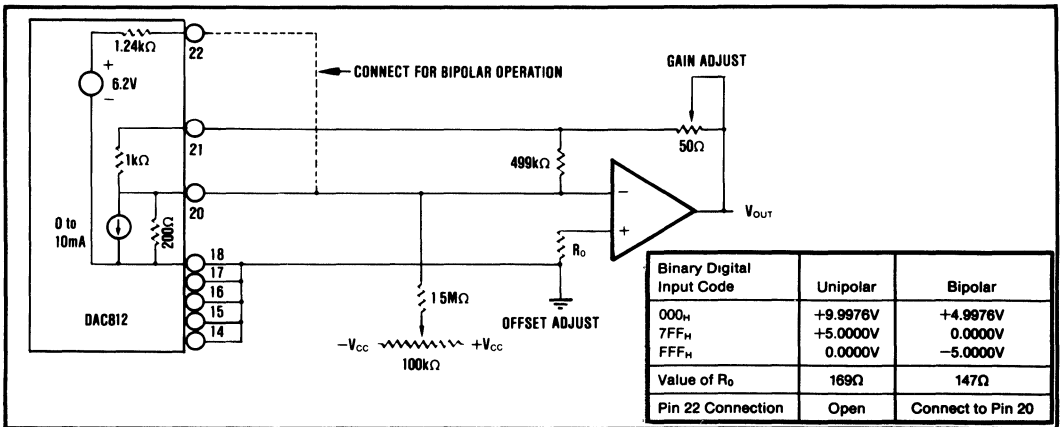
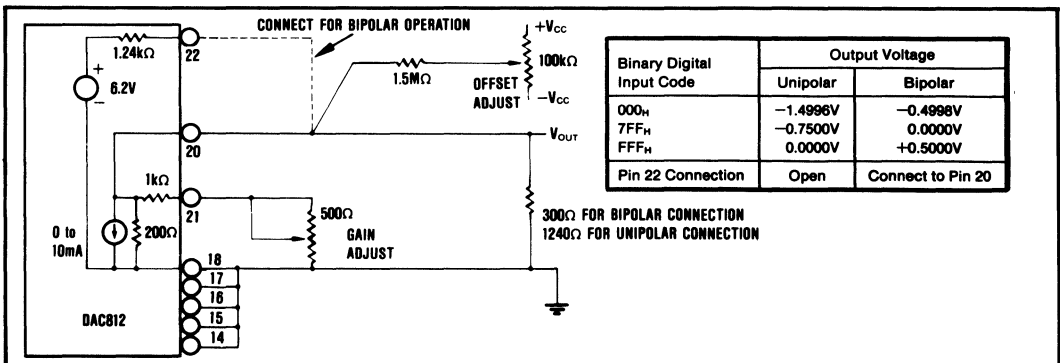

FIGURE 5. Bipolar and Unipolar Output Connections with External Op Amp.
FIGURE 6. Bipolar and Unipolar Output Connection with Resistor Load Only.
NOTES: (1) FSR is full-scale range. (2) Adjustable to zero with external potentiometer. Gain error is specified for unadjusted operation using internal resistor network. See Figure 5 and Figure 6.
Figure 5 shows the DAC812 connected to an external op amp in unipolar and bipolar modes. When the op amp is a Burr-Brown model OPA600 it is possible to achieve settling times to 0.1% accuracy in 150nsec. Output accuracy and linearity specifications are given when connected to an external op amp.
For highest speed operation, the DAC812 should be used without an external op amp. Figure 6 shows how to connect the DAC812 for bipolar and unipolar operation. Figure 7 illustrates how to connect the DAC812 to construct a fast A/D converter.